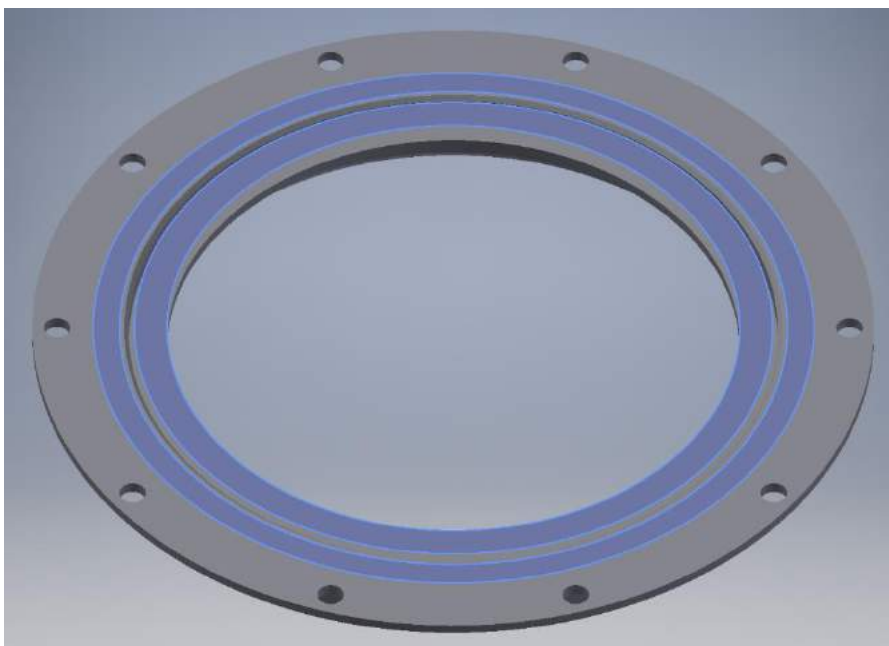

Figure 69
11. Apply a smear of high/extreme temperature grease/lubricant (Must be Viton and NBR compliant) to one side of the Shaft seal carrier on the V-Lip. **Note : This lubricant must not have properties that degrade the nitrile/viton v-seals and shaft seal** to one side of the Shaft seal carrier on the V-Lip seals running surface. (figure 69)